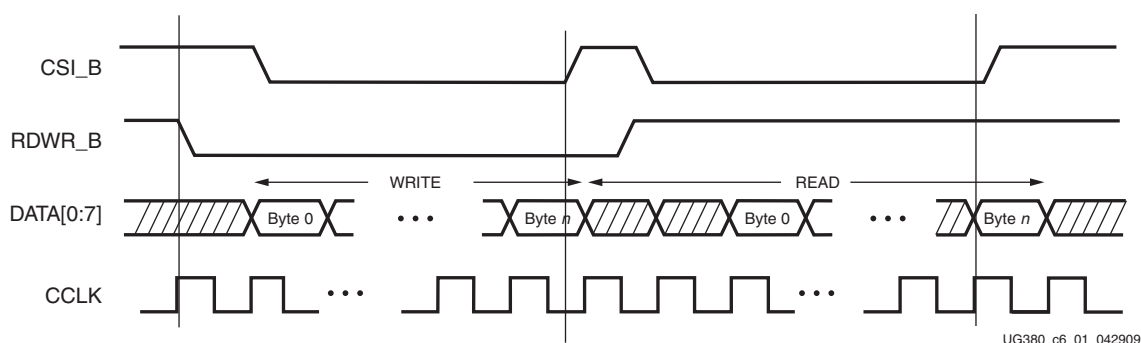

Figure 6-1: Changing the SelectMAP Port from Write to Read Control
5. This procedure is illustrated in Figure 6-1.